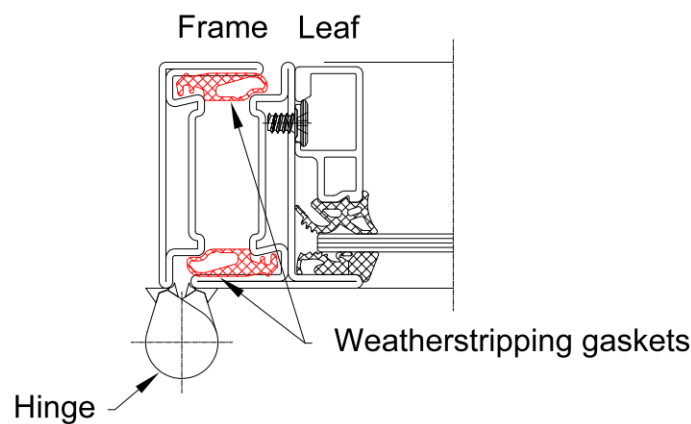

Figure 3 Installation of weatherstripping gaskets
14. During installation, make sure that the weatherstripping gasket is installed in the right direction (Figure 3).